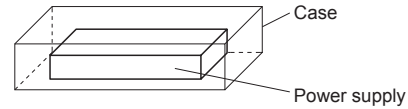

Fig.3.2 Installation example
- There is a possibility that it is not possible to cool enough when the power supply is used by the sealing up space as showing in Figure 3.2.